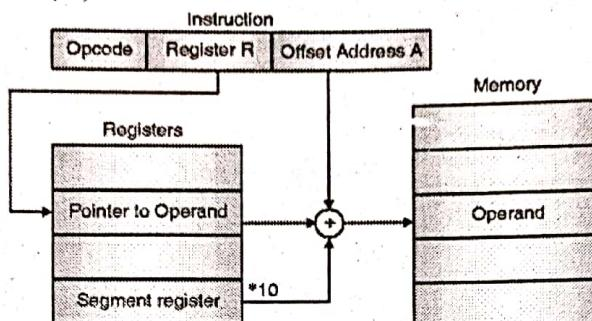

Fig. 7-Q. 6(b) : Register relative addressing mode
- In this addressing mode the effective address is given by a base register or index register along with an 8-bit displacement, specified in the instruction. This effective address is added with the segment register * 10H to generate the physical address as shown in Fig. 7-Q. 6(b).